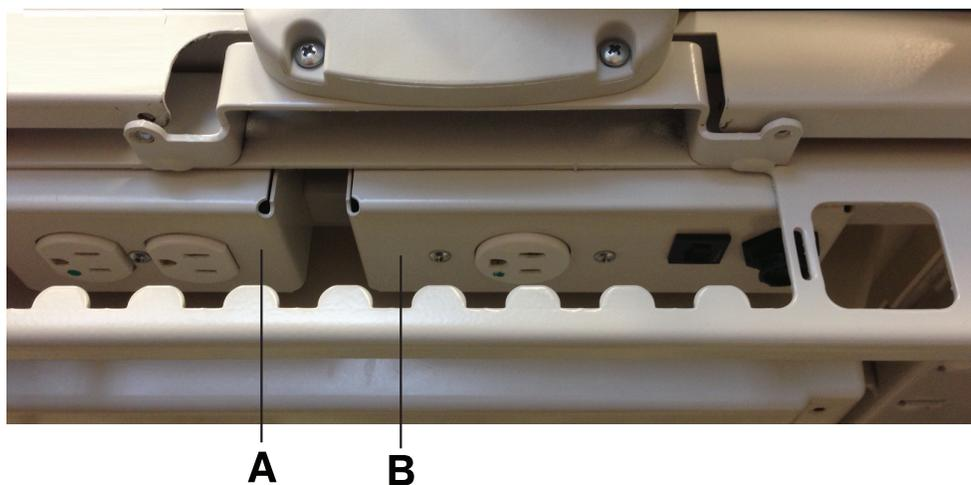

Figure 12: Optional InTouch auxiliary outlets
You can use the 110 volt **InTouch** auxiliary power outlet as a built-in power source for peripheral equipment. The outlet is located beneath the foot end on the patient left side of the product (A) (Figure 1 on page 9). There is a one and two plug option for the **InTouch** auxiliary outlet (A) (Figure 12 on page 24).
There is also an auxiliary mattress connector outlet for connecting a support surface option to InTouch (B) (Figure 12 on page 24). A 5A breaker is also integrated into this power outlet.